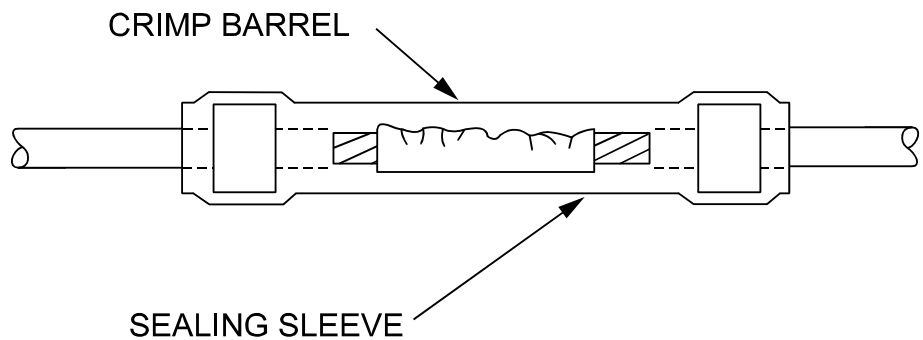

Figure 6-14 Positioning the Sealing Sleeve
- (1) Indent centred on splice barrel,
- (2) Indent in line with barrel,
- (3) Barrel not cracked,
- (4) Wire cannot be pulled out of splice, and
- (5) A gap of 0.8 to 1.5 mm for wire gages 10 through 26, or 1.5 to 3.0 mm for wire gages 6 and 8, should exist between wire insulation and crimp barrel.
- n. Centre the sealing sleeve over crimp barrel as shown in Figure 6-14.